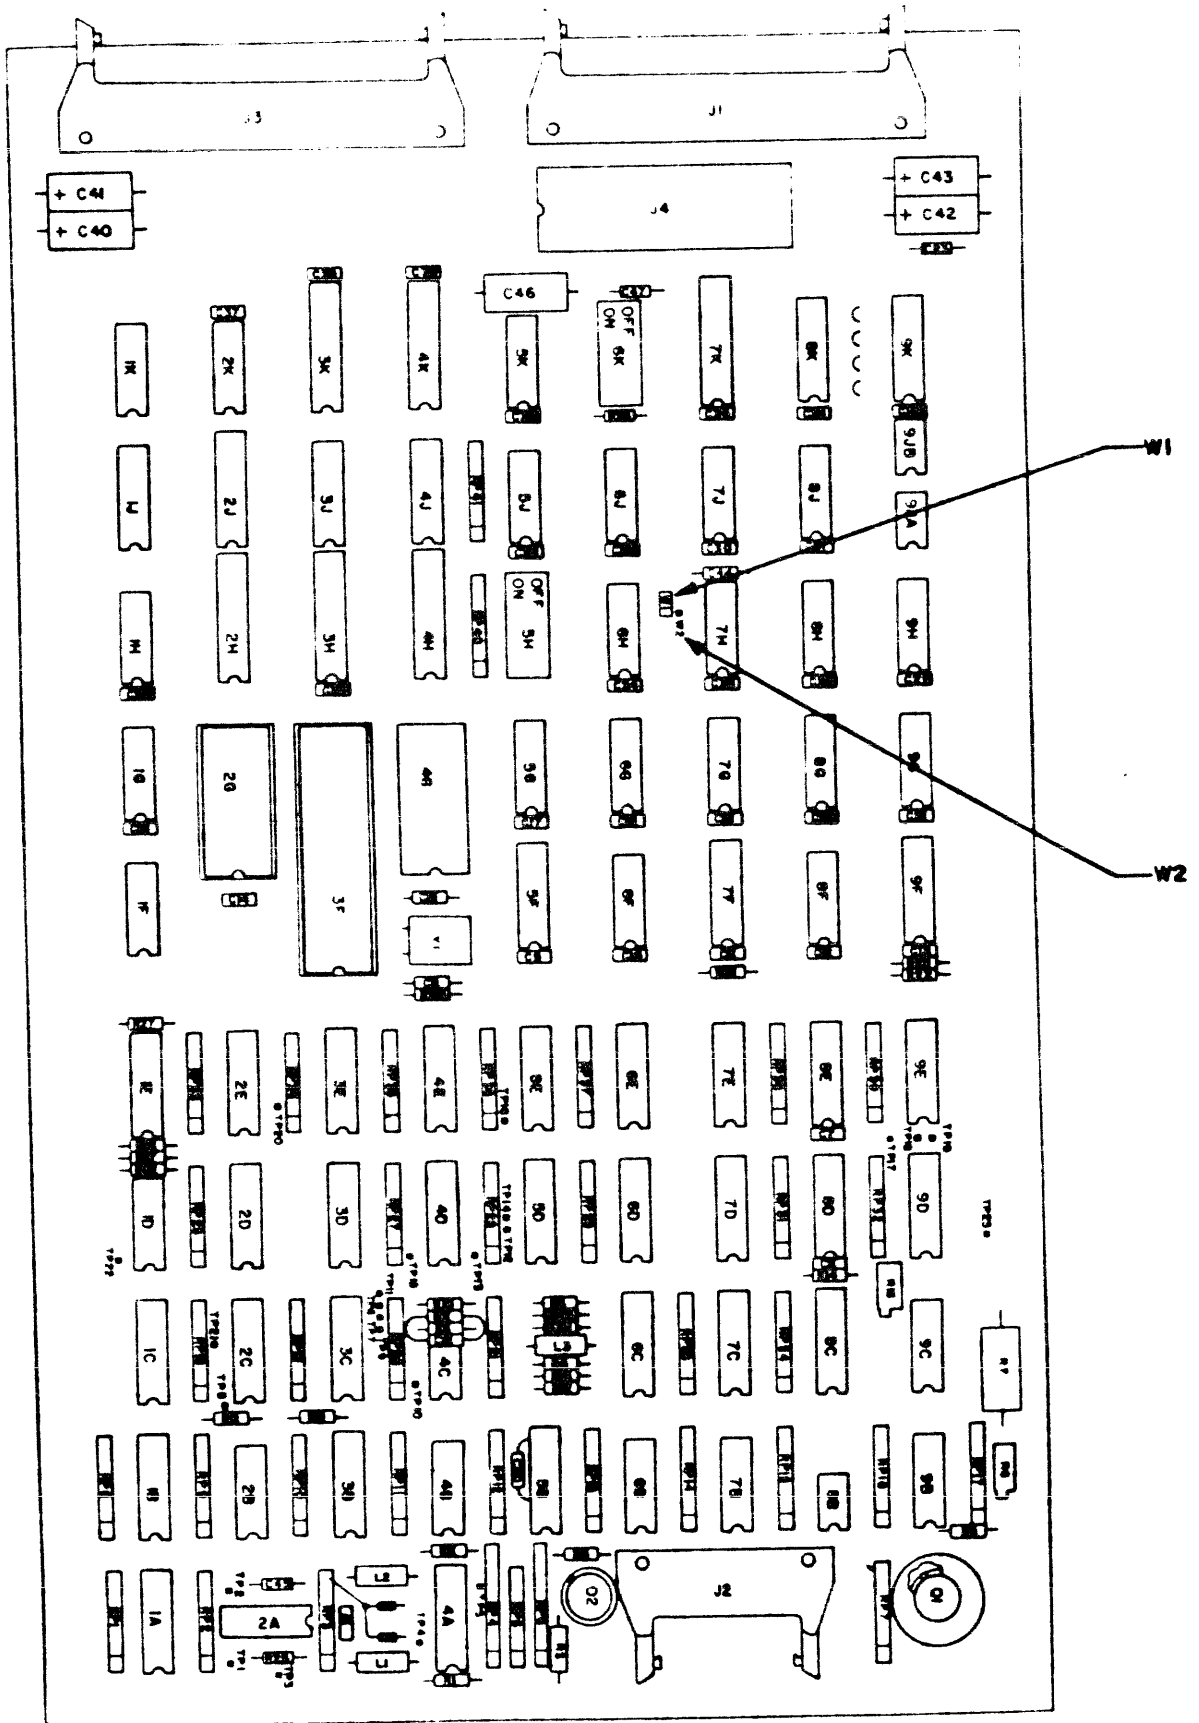

FIGURE 1 - R/W & DIGITAL PCBA JUMPER LOCATIONS
- 7. Set the sector switches on the RW/DIGITAL PCBA at location 11K as desired. Refer to Figure 1.
- 8. Set drive select switches on the RW/DIGITAL PCBA at location 6K for the required physical address. Refer to Figure 1.
Switch 6K-7 ON. (See Figure 1).
Switch 6K-8 ON. (See Figure 1).
NOTE: When W1 is jumpered the jumper will be parallel to I.C. alignment. (See Figure 1).